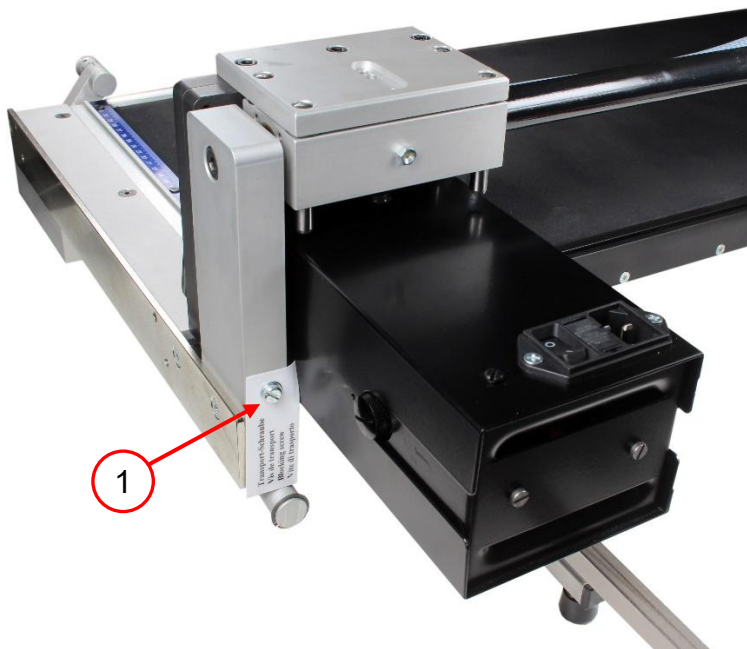

Figure 26 Remove transport screw and plastic ring VARGA VA 11
11. Remove transport screw (1, Figure 26).